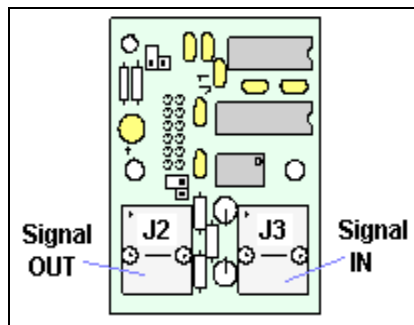

Figure 8: AF-3010/X-1000 COM Module
4. For AE-3010, AF-3010, AF-3020, and X-1000 displays only, disconnect the cable going into the COM module input (J3) on the controller and connect to J2 on the loop-back box. See **Figure 8** for location of the RJ11 connector.